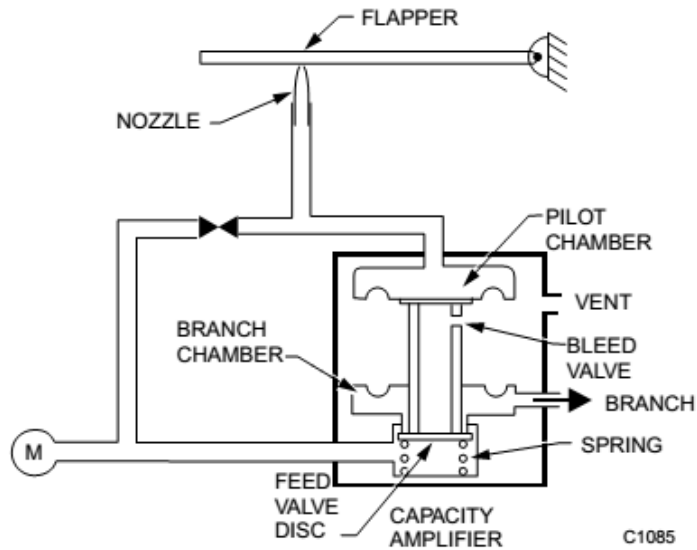

Fig. 2-4 Pilot Bleed System with amplifier Relay
- **Pilot Bleed system (Amplifier Relay):** is a means of increasing capacity as well as reducing air consumption. The capacity amplifier that is a pilot bleed component that maintains the branch line pressure at the same value as the pilot pressure but *provides greater airflow capacity* (Fig. 2-4)